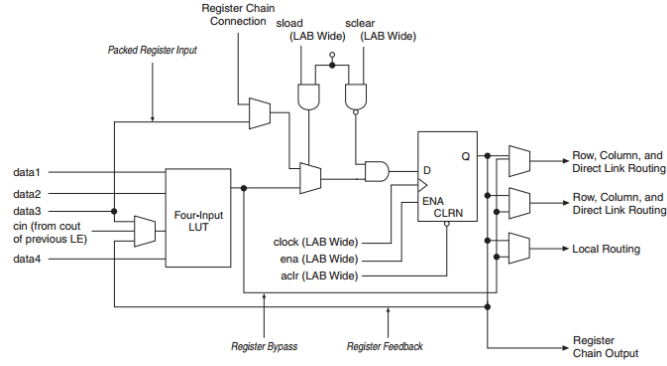

Figure 2: Cyclone III Device Family LEs in Normal Mode [1]
The field-programmable gate array (FPGA) has been around since the 1980's, its purpose was to be able to easily create and prototype custom hardware without having to expend vast resources required for designing and manufacturing application-specific integrated circuits (ASICs). The FPGA accomplishes this by using "logic elements" (LE), a term that varies by manufacturer but is essentially the same, which is typically a circuit that consists of a lookup table for performing an array of logic operations, multiplexers and low level logic gates that can be configured in such a way as to create custom complex logic such as adders/subtractors or even be used for more simple XOR and NAND gates. A common structure of a logic element can be found in Figure 2, this one is from the Altera Cyclone III family. The elements are most often configured as a matrix with interconnects for inputs, outputs and configuration paths in between. In the last decade or so, improvements in silicon technologies have allowed FPGA manufacturers to greatly increase the number of logic elements on a chip into the hundreds of thousands and beyond which makes it possible to design hardware of almost the same complexity as modern ASICs.